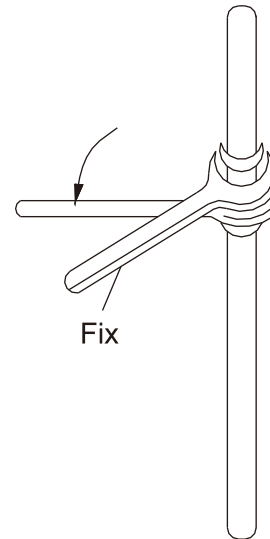

Figure 15
- 1) When connecting the connector on the bell port, be sure to make two pipes concentric and aligned, and then nested the spiral port, and screwed it in, finally tightened with a wrench, shown in figure 15: